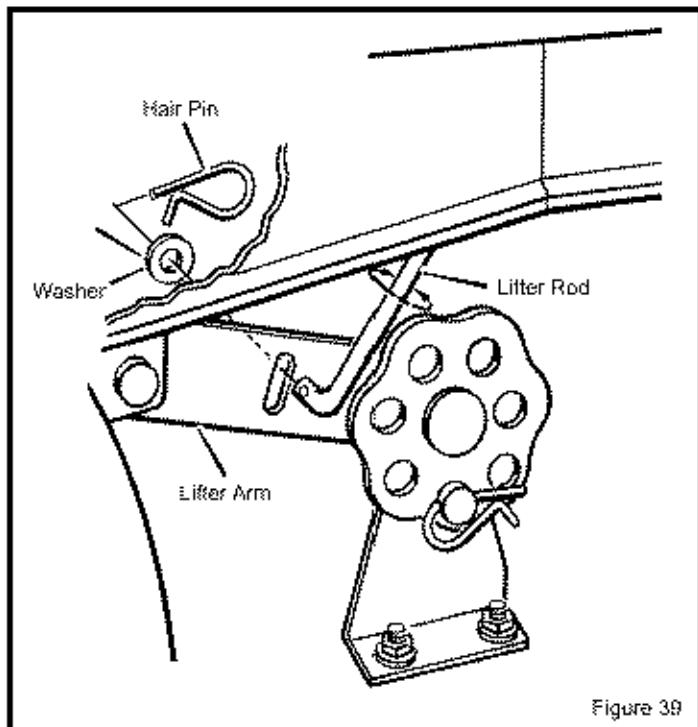

Figure 39
2. Disconnect the lifter rod from the lifter arm (Figure 39).